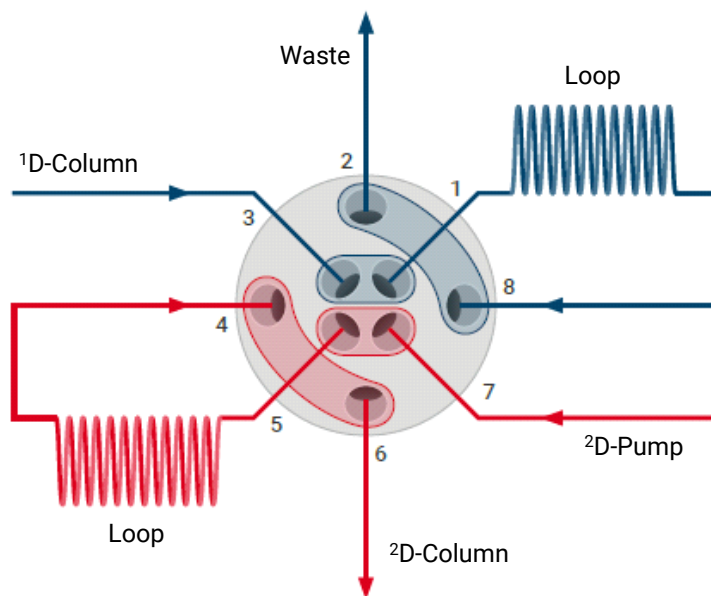

Figure 30: Schematic representation of the Standard 2D-LC Valve (G4236A) in concurrent flow.
- Concurrent direction for the Standard 2D-LC Valve (G4236A) with Single Heart Cut Configuration, see Figure 30 on page 66.